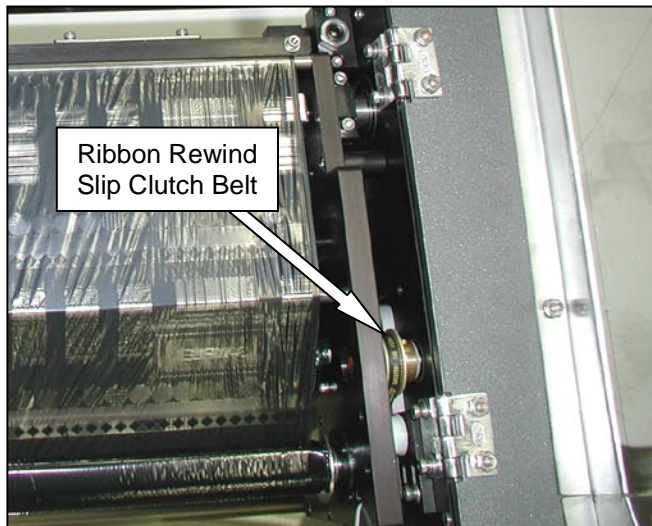

Figure 2-13. Ribbon Rewind Slip Clutch Belt
12. Locate the slip clutch belt between the left printhead plate and the outer plate on the hinged side of the cradle (Figure 2-13). At proper tension, this belt should deflect about 1/16".